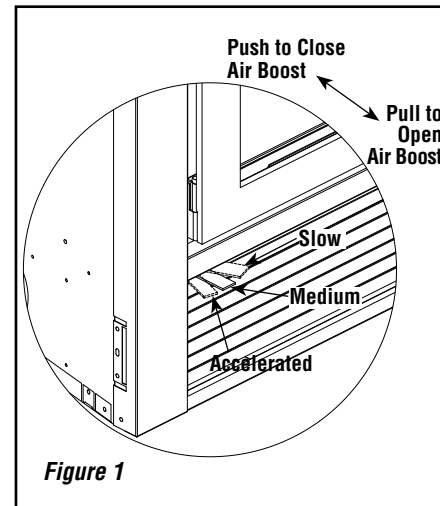

Figure 1
This is the recommended mode of operating the WRT4820WS fireplace and should be the one normally used since it will deposit the least amount of creosote on the glass and in the chimney. The combustion air control must be 3/4 closed (*Figure 1*) and pushed in to close the air boost. The precise setting will depend on many factors, including chimney length and the moisture content of the wood.
Creosote may accumulate on the glass door. This method of burning should be used only after operating the WRT4820WS fireplace with the air control opened (*Figure 1*) to produce a hot fire for about an hour or at medium pace for at least three (3) hours. Slow combustion can be used at night in order to reduce the heat output and to prolong the burn. The loading time will be between 6-8 hours.
The WRT4820WS fireplace will operate best if attention is given to operating the unit with the damper fully opened (*figure 1*) after refueling in order to bring the firebox and the chimney system up to their optimum operating temperature. Combustion efficiency is relative to firebox temperature. A temperature of 932° F (500° C) and up, with a visible flame, in the upper part of the firebox indicates a maximum efficiency. To obtain this temperature, the fireplace must be operated with the primary air and air boost controls fully opened during 10 to 20 minutes after reloading, depending on the heat and on the moisture content of the wood.